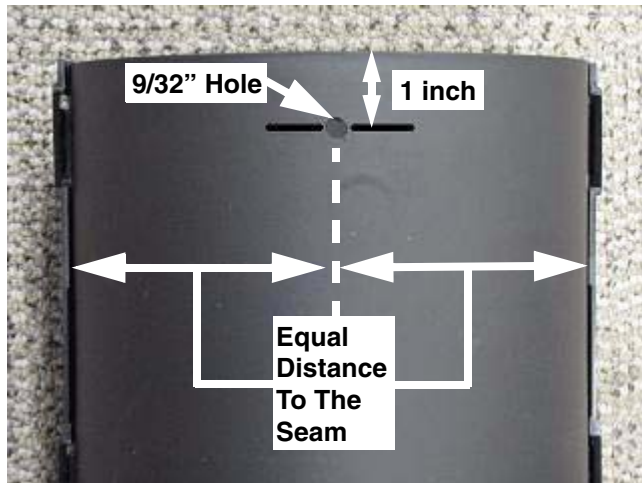

FIGURE 4
3. Drill a hole in the location marked in step 2, using a 9/32" drill bit. See Figure 4.